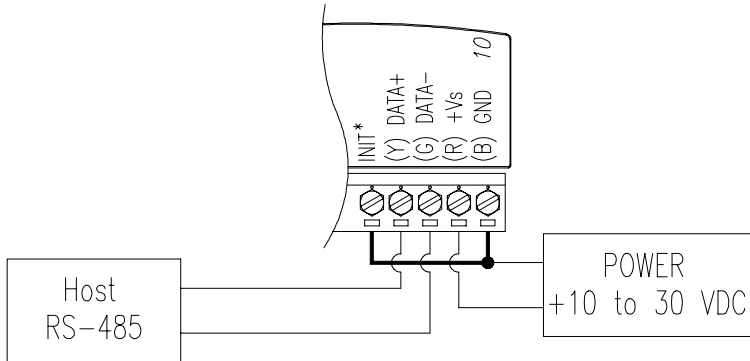

Figure 2-3 ***Grounding the INIT\* Terminal***
- Power the ADAM module on while shorting the INIT\* and GND terminals (See Figure 2-3).